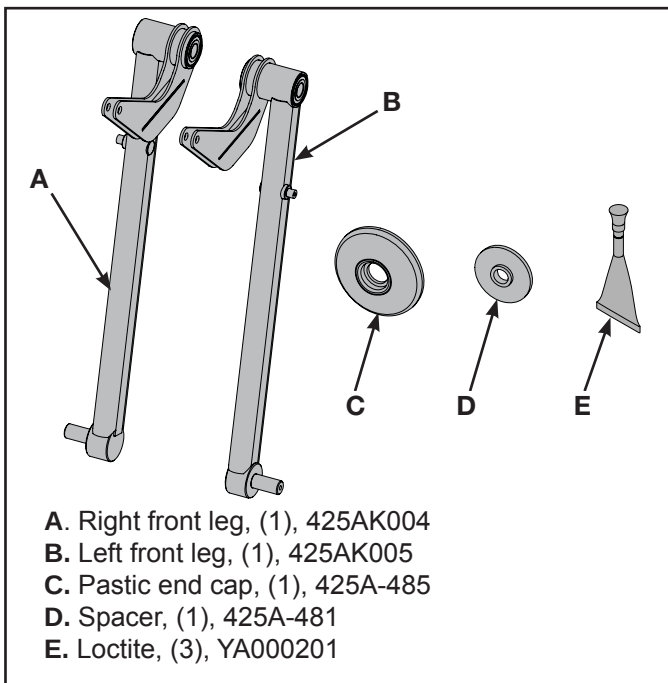

Figure 1
2. Verify you received the appropriate kit. See Figure 1.